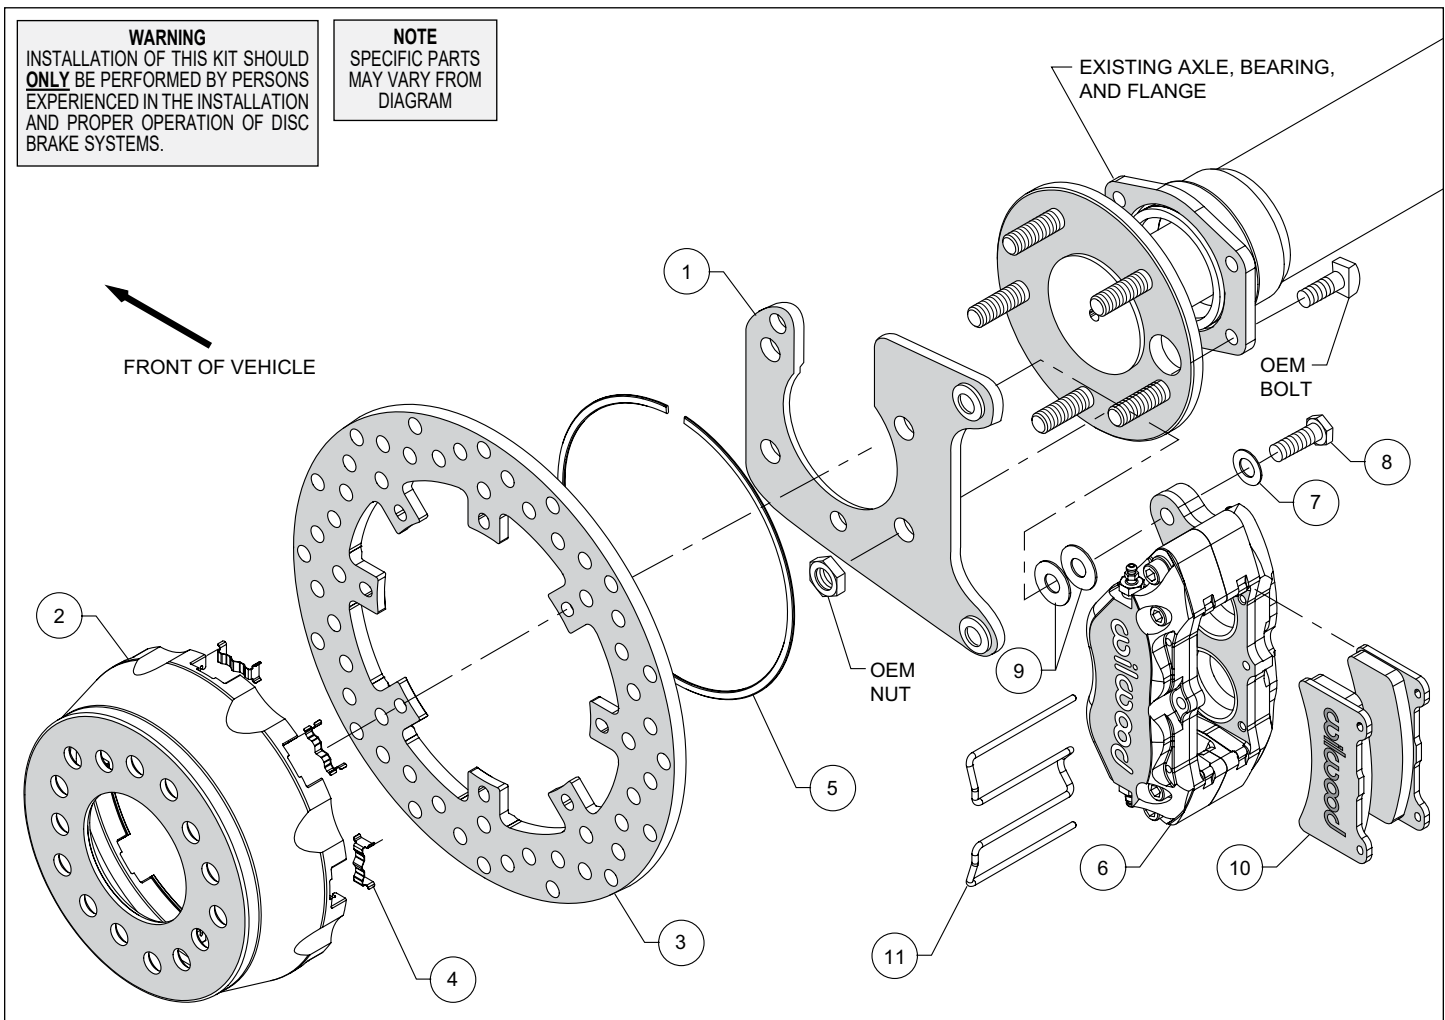

Figure 1. Typical Installation Configuration
**Assembly Instructions** (numbers in parenthesis refer to the parts list and Figure 1 on the preceding pages): **CAUTION:** All mounting bolts must fully engage clinch nuts. Be sure to check that all bolts are either flush or protruding through flanged side of clinch nut after shimming, Figure 5.
- Install the caliper mounting bracket (1), with the slot for the axle pointing upward, to the housing flange using the OEM bolts and nuts, as shown in Figure 1 and Photo 1. Ensure that the heads of the clinch nuts are facing outboard, Photo 1. Apply red *Loctite*® 271 to the OEM bolt threads and torque to OEM specifications.
- Insert the dynamic mount wear plates (4) into the slots in the hat (2) making sure the tabs snap in place, Photo 2. Orient the rotor (3) as shown in Figure 1 and Photo 3, with the flush mount tab side facing the hat. Attach the rotor to the hat using snap ring (5) by pushing down on the rotor and installing the ring into the groove in the hat, as shown in Photo 4. Ensure that the ring is fully engaged in the groove.
- Align the correct hole pattern in the hat (2) with the axle stud pattern and slide the hat/rotor assembly onto the axle hub. **NOTE:** The hat must fit flush against the axle flange or excessive rotor run out may result. Install three lug nuts (finger tight) to keep the hat/rotor in place while continuing with the installation. **NOTE:** Some OEM and aftermarket axles come with stud sizes larger than 0.50" diameter. Verify stud size, and if necessary, have a qualified machine shop drill the hats to the correct size.
- NOTE:** Please reference the caution statement at the beginning of the assembly instructions. Mount one caliper (6) onto the mounting bracket (1) using bolts (8) and washers (7), as shown in Figure 1. Initially place two .035" thick shims (9) on each bolt between the caliper and the bracket, Photo 5. Temporarily tighten the mounting bolts and view the rotor (3) through the top opening of caliper. The rotor should be centered in the caliper, Photo 6. If not, adjust the caliper by adding or subtracting shims between the bracket and the caliper. Always use the same amount of shims on each of the two mounting bolts. **NOTE:** The end of each bolt must be flush with or slightly protruding from the head of the clinch nut. If necessary, place spare shims between washer and caliper mounting ear to achieve the proper clinch nut engagement, as shown in Figure 5. Once the caliper alignment and clinch nut engagement are correct, remove the bolts one at a time, apply red *Loctite*® 271 to the threads, and torque to 40 ft-lb.